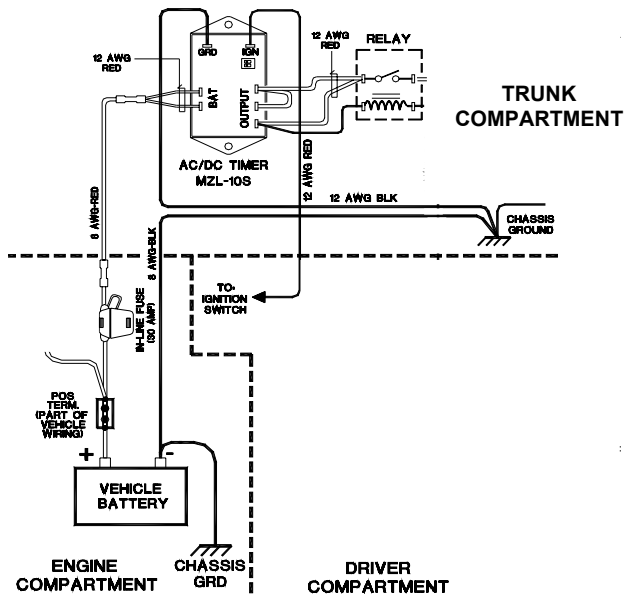

Figure 10
- Step 2** Route the black wire (#12 AWG) from ground connection on the Delay Timer to the vehicle chassis (see Fig. 10).
- Step 4** Route a red wire (#12 AWG) from the ignition connection on the Delay Timer to the ignition switch in the driver compartment (see Fig. 10).
- Step 7** Route and wire a red (#12 AWG) wire from the last output connection on the Delay Timer to the Automotive Power Relay coil at the position shown in Figure 10.